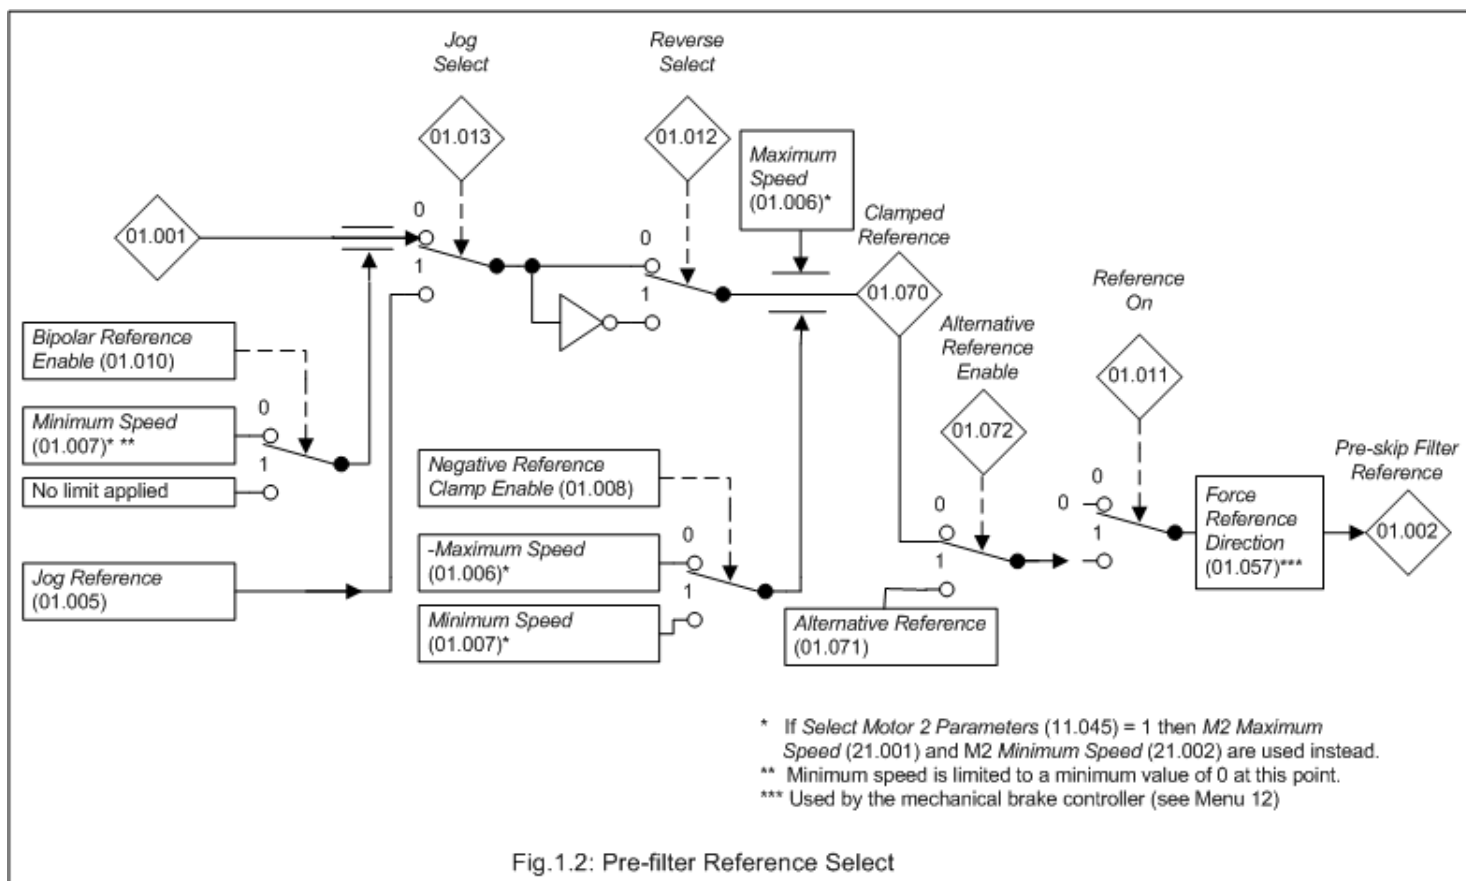

Fig.1.2: Pre-filter Reference Select
*Pre-skip Filter Reference* (01.002) is the reference before the skip filtering as indicated in Fig. 1.2.
The minimum speed is also used to provide the minimum speed limit for uni-polar mode (i.e. *Bipolar Reference Enable* (01.010) = 0) after the *Reference Selected* (01.001) as shown in Fig.1.2.